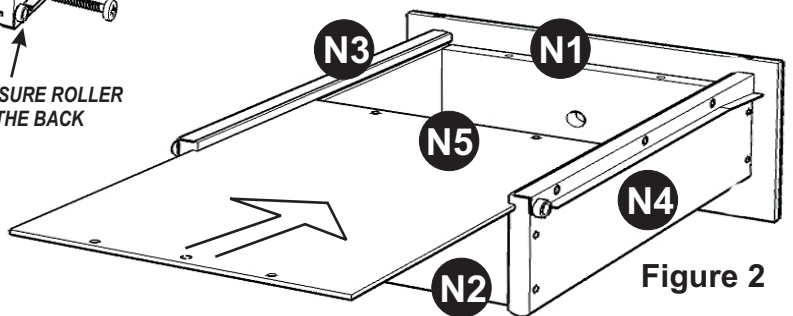

Figure 2
Attach Front Rail (F) and Front Rail (E) with Cam Lock. (See figure 2)
Slide N5 into the grooves in N3 and N4. Be sure to push N5 all the way forward so it meets N1. (see Figure 2)